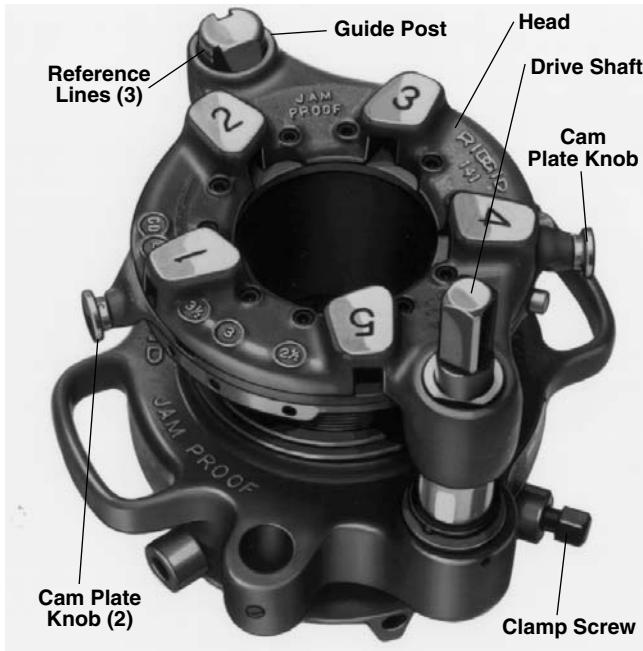

Figure 16 – No. 141 Geared Threader Showing Pinion Sleeve and Guide Post Reference Lines
Grasp workholder and turn square end of drive shaft or turn gear case by hand to respective reference lines on guide post (Figure 16).
4. Turn guide post until straight slot faces inward for straight thread. For tapered threads set tapered slot inward. *Figure 16* shows guide post set to cut tapered thread.
7. 141 and 161 – Using the socket wrench, loosen clamp screw (*Figure 16*), turn workholder to OPEN position and remove pipe.